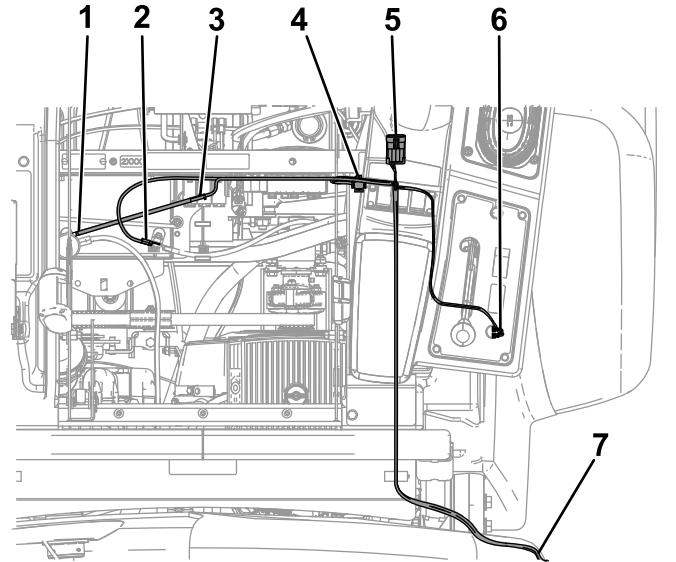

Figure 7
4. Plug the next connector into the relay (Figure 7), and mount the relay to the outer hole on the frame near the existing relays.
5. Connect the fusible link to the red wire attached to the positive (+) battery terminal (Figure 7).
7. Connect the far end of the wire harness to the fuse block ground (Figure 7).
1. Connect the 2 connectors on the wire harness to the 2-blade connector on the switch (Figure 7).